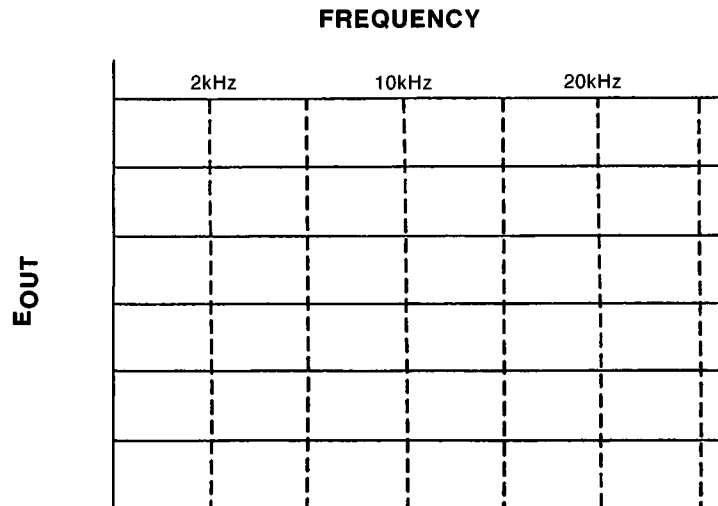

Figure 5-45
17. Connect the voltmeter across R_2 (not R_1). Use the above procedure to plot the response curve for this circuit on the graph in Figure 5-45.
In step 16 you assembled the circuit shown in Figure 5-44 and plotted its response curve in Figure 5-45. A typical response curve is shown in Figure 5-52. Your curve should be similar. You will recognize that this is the response curve of a band-pass filter.